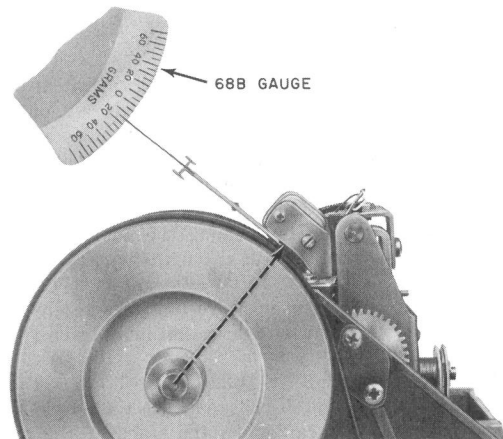

Fig. 14—Magnetic Head Pressure
3.28 Magnetic Head Pressure (Fig. 14):